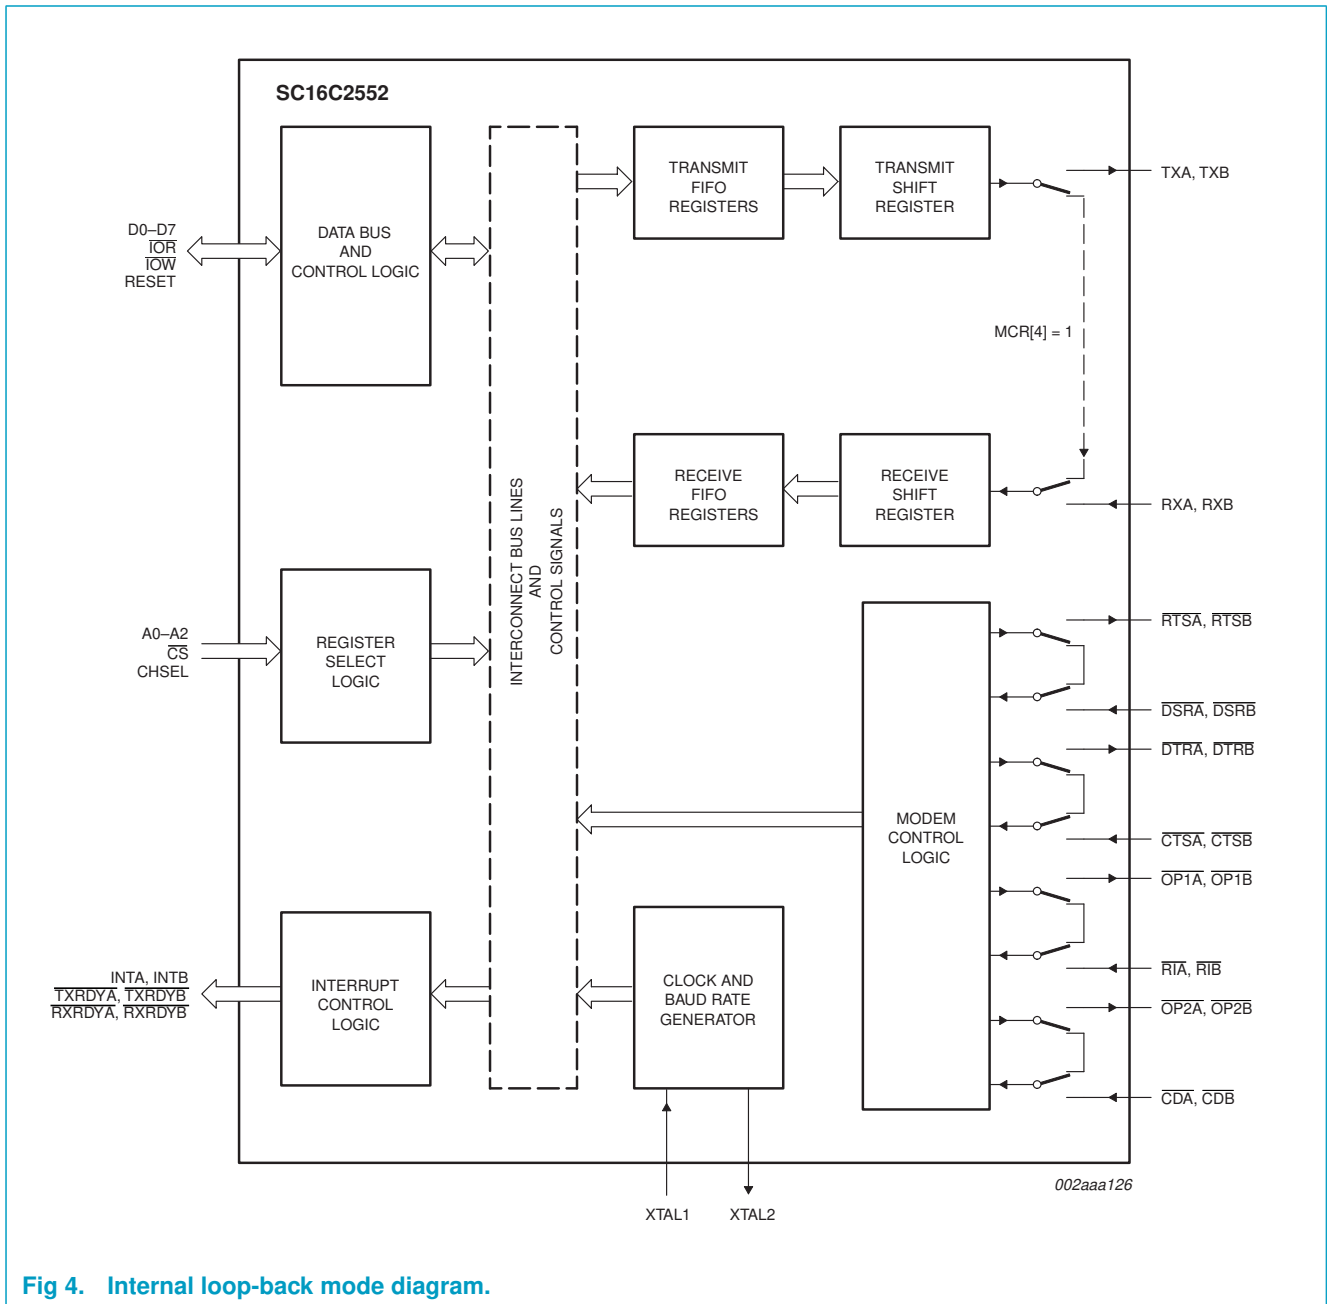

Fig 4. Internal loop-back mode diagram.
The internal loop-back capability allows on-board diagnostics. In the loop-back mode, the normal modem interface pins are disconnected and reconfigured for loop-back internally. MCR[0-3] register bits are used for controlling loop-back diagnostic testing. In the loop-back mode, INT enable and MCR[2] in the MCR register (bits 2-3) control the modem  $\overline{RI}$  and  $\overline{CD}$  inputs, respectively. MCR signals  $\overline{DTR}$  and  $\overline{RTS}$  (bits 0-1) are used to control the modem  $\overline{CTS}$  and  $\overline{DSR}$  inputs, respectively. The transmitter output (TX) and the receiver input (RX) are disconnected from their associated interface pins, and instead are connected together internally (see Figure 4). The  $\overline{CTS}$ ,  $\overline{DSR}$ ,  $\overline{CD}$ , and  $\overline{RI}$  are disconnected from their normal modem control inputs pins, and instead are connected internally to  $\overline{DTR}$ ,  $\overline{RTS}$ , INT enable, and MCR[2]. Loop-back test data is entered into the transmit holding register via the user data bus interface, D0-D7. The transmit UART serializes the data and passes the serial data to the receive UART via the internal loop-back connection. The receive UART converts the serial data back into parallel data that is then made available at the user data interface D0-D7. The user optionally compares the received data to the initial transmitted data for verifying error-free operation of the UART TX/RX circuits.